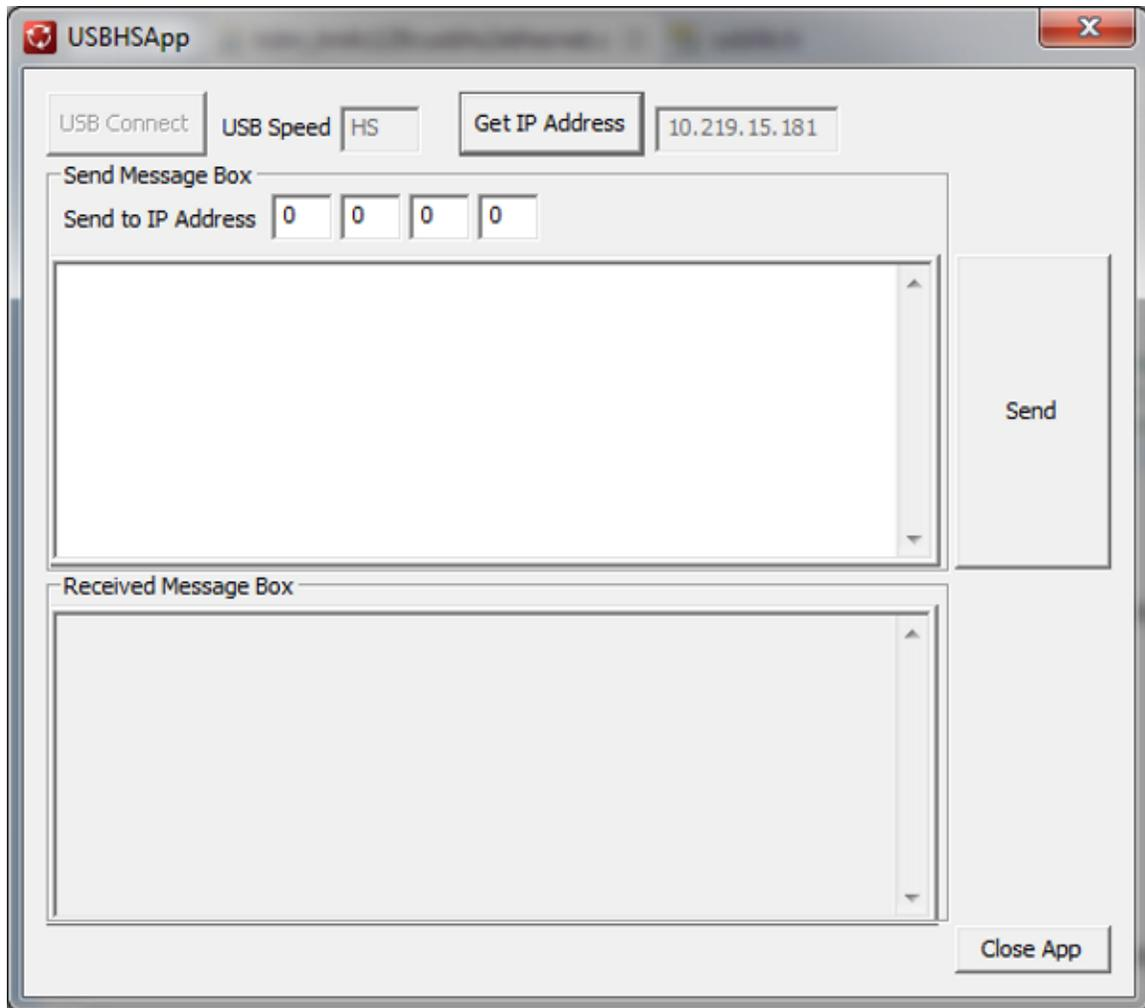

Figure 23. Display the IP Address of the Local Device
- Click on the button *Get IP Address*, which will cause the application to send a request to the local device to send the IP address of the local device on the network (see Figure 23). If the Ethernet cable is not plugged in, then it will show *Link not established*. If the Ethernet cable is plugged, but the IP address has not been assigned, then it will show *Acquiring IP Address*.